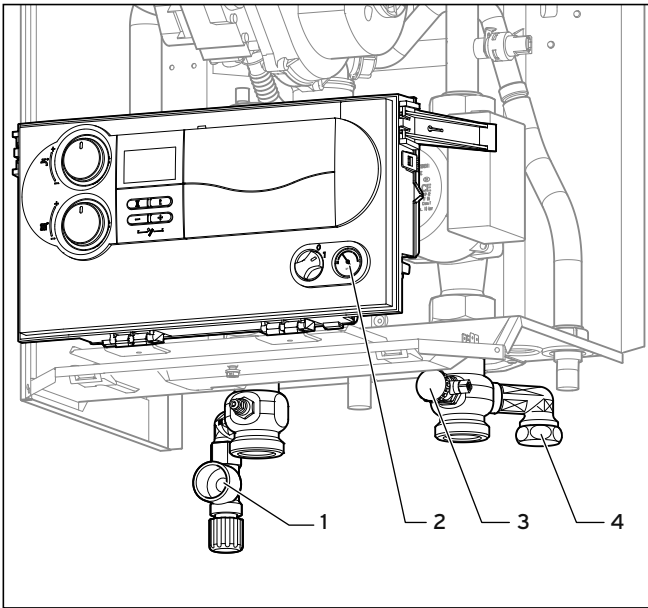

Fig. 5.10 Fitting the expansion relief valve
**It is essential to use the combined filling and emptying valve (3, Fig. 5.10) in the return for filling the boiler without fail, as otherwise the bleeding of the boiler cannot be ensured.**